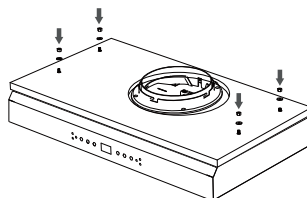

Fig 9
- As shown in Figure 9, take out the gasket and hexagon nut from the screw package, put the gasket first, and then tighten the hexagon screw to fix it.